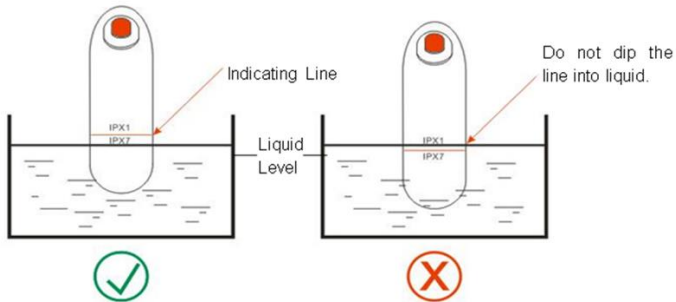
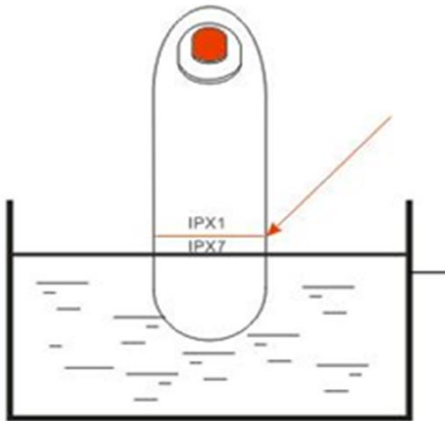

Fig. 7.1 Probe Immersion
Fig. 7.2 Probe Immersion Levels IPX1 and IPX7
2. Immerse the part of probe under the indicating line into the container with 500ml cleaning solution for 5 minutes. (see Fig. 7.1 and Fig. 7.2).